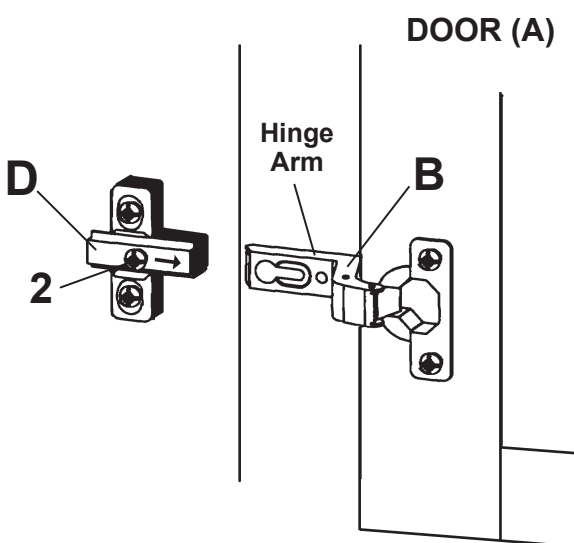
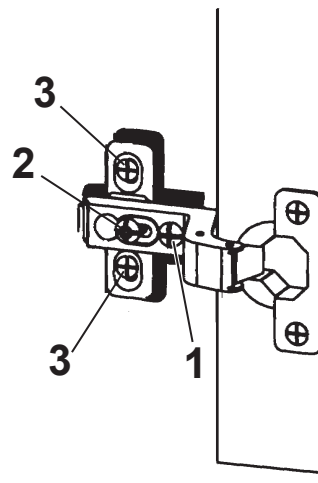

FIG. 6A
FIG. 6B
6. To attach the doors to the unit, slide the hinge arms (B) onto the Hinge Plates (D) as shown in FIGURE 6A. Tighten the screw marked '2' in FIGURE 6A to fasten the hinge. The door may need to be adjusted so that all the spaces between the door and the unit sides are equal. To adjust, follow instructions in FIGURE 6B.